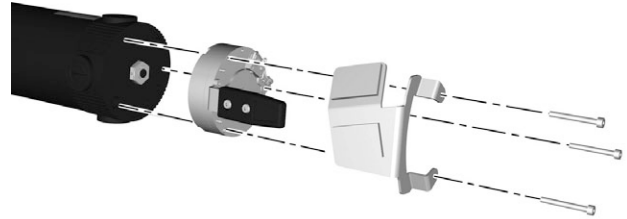

Figure 65. The magnetic wheel lock is fitted with three screws.
1. Fit the magnetic wheel lock with the brake release lever pointing outwards using the three screws. See fig. 65.